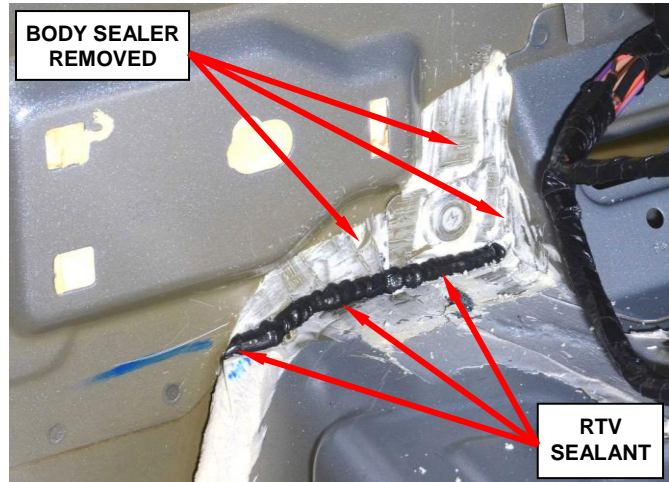

Figure 19 – Apply RTV Sealant
8. Using RTV sealant, seal the horizontal panel seam (Figure 19).